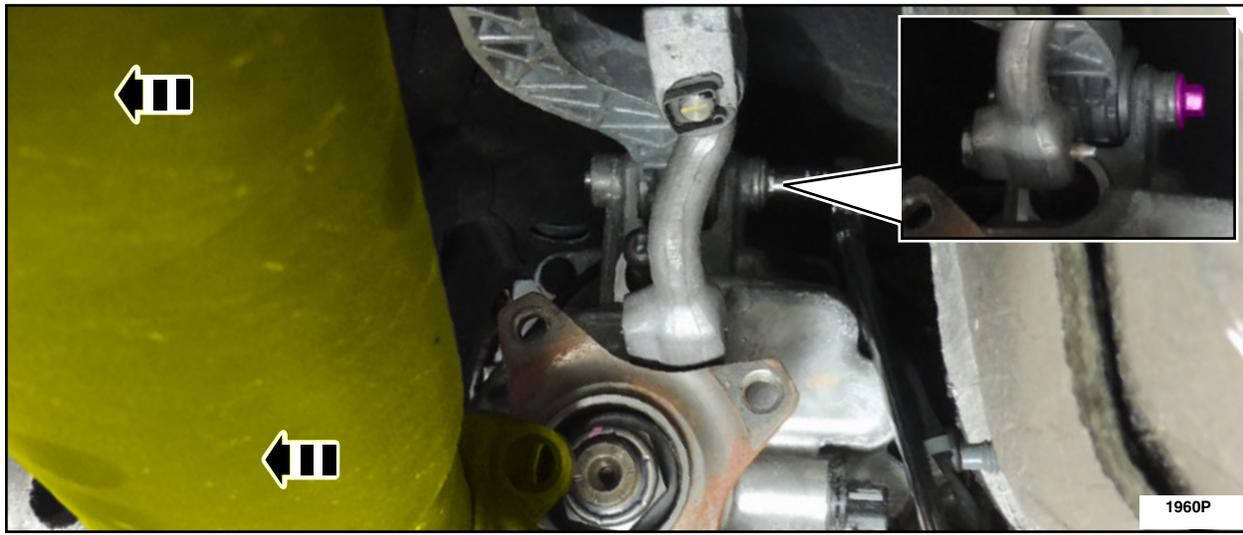

FIGURE 15
See Figure 15.
20. Install the gearshift lever to transmission bolt. See Figure 15.